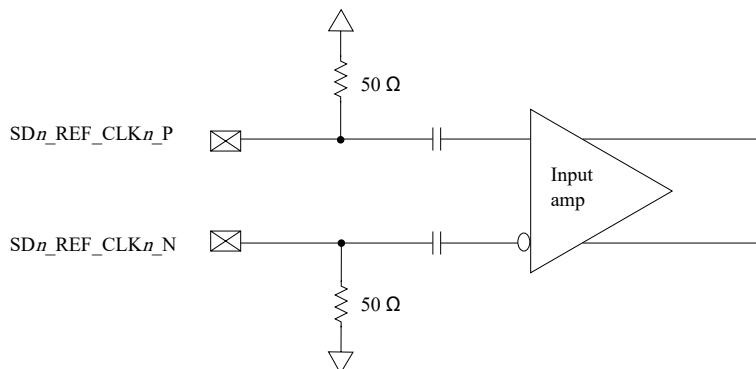

Figure 19. Receiver of SerDes reference clocks
- The PCI_CLK_P and PCI_CLK_N are internally AC-coupled differential inputs as shown in Figure 19. Each differential clock input (PCI_CLK_P and PCI_CLK_N) has on-chip 50 Ω termination to SGND_n followed by on-chip AC-coupling.
- For an external DC-coupled connection, as described in Figure 19, the maximum average current requirements set the requirement for average voltage (common mode voltage) as between 100 mV and 400 mV.